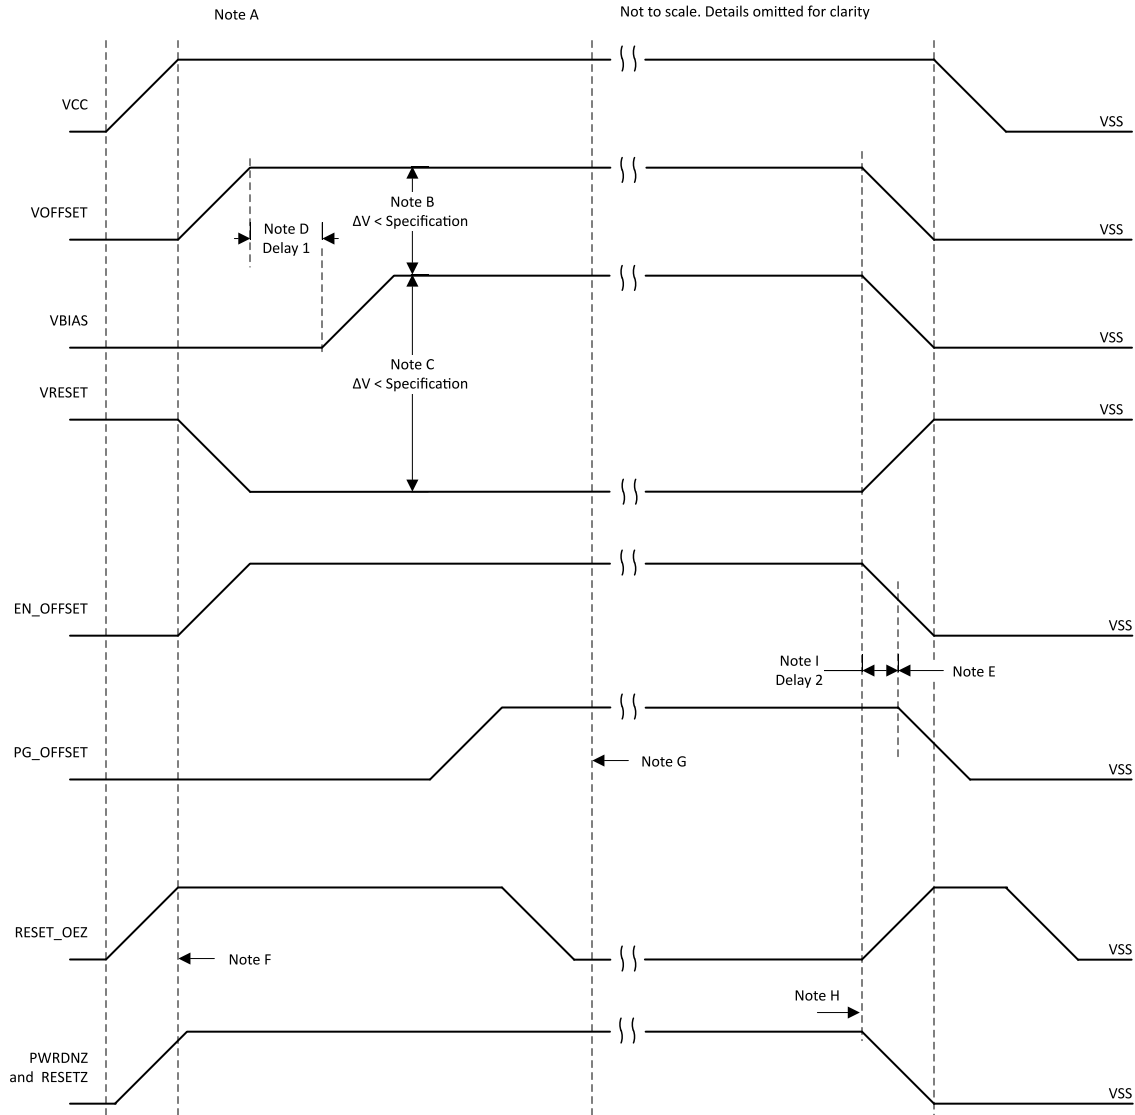

Figure 9-1. DMD Power Supply Requirements
For reliable operation of the DMD, the following power supply sequencing requirements must be followed. Failure to adhere to any of the prescribed power-up and power-down requirements may affect device reliability. See Figure 9-1.
- Power supply slew rates during power-up are flexible, provided that the transient voltage levels follow the requirements specified in the Section 6.1, in the Section 6.4, and in Figure 9-1.
- Power supply slew rates during power-down are flexible, provided that the transient voltage levels follow the requirements specified in the Section 6.1, in the Section 6.4, and in Figure 9-1.